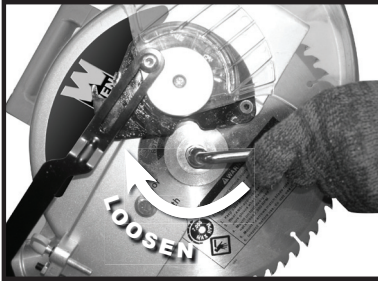

Figure 5
6. While holding in the Arbor Lock Button, use the Wrench to loosen the Arbor Bolt by turning it clockwise. (See Figure 5.)